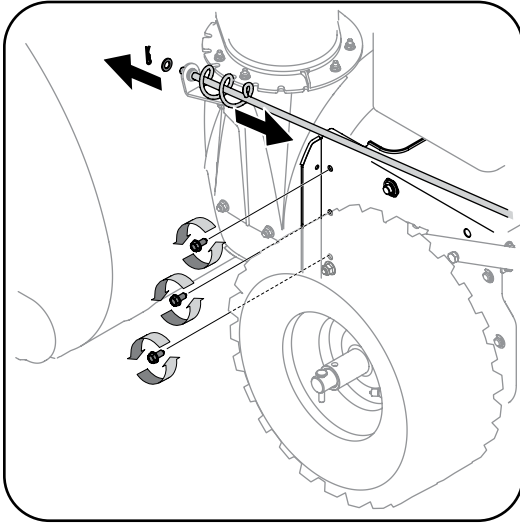

Figure 7-1
1. Disconnect the chute crank assembly at the discharge chute end by removing the hairpin clip and the flat washer. Refer to Figure 7-1.
4. From both sides of the frame assembly, use a 1/2" wrench to remove the three hex tap screws securing the transmission frame to the auger housing assembly. Refer to Figure 7-1. NOTE: Do not remove the lower hex flange lock nut on each side.